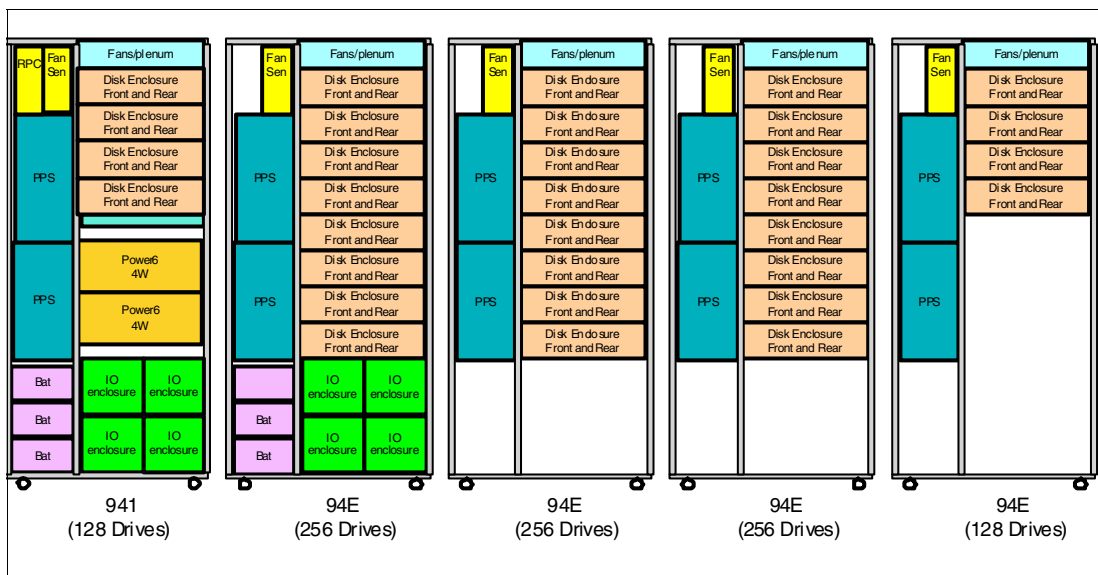

Figure 2-3 DS8700 models 941/94E maximum configuration with 1024 disk drives
There are no I/O enclosures installed for the second, third, and fourth expansion frames. The result of installing all possible 1024 DDMs is that they will be distributed evenly over all the device adapter (DA) pairs. For an explanation of DA pairs, refer to 3.5.4, “Device adapters” on page 57. Figure 2-3 shows a maximum DS8700 configuration.